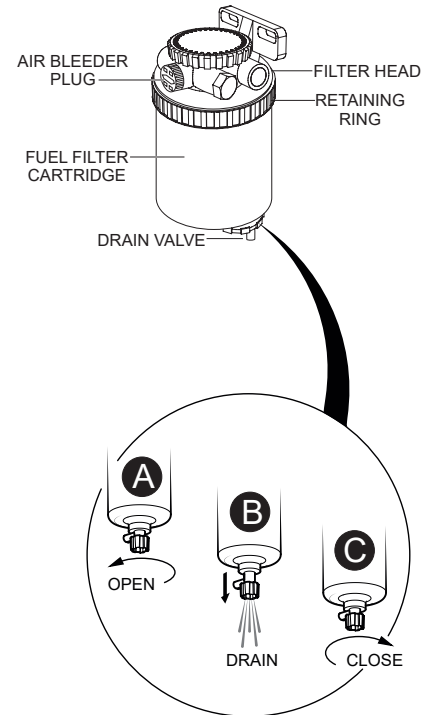

Figure 63. Draining The Fuel Filter
1. Loosen the air bleeder plug (Figure 63) on the fuel filter head.